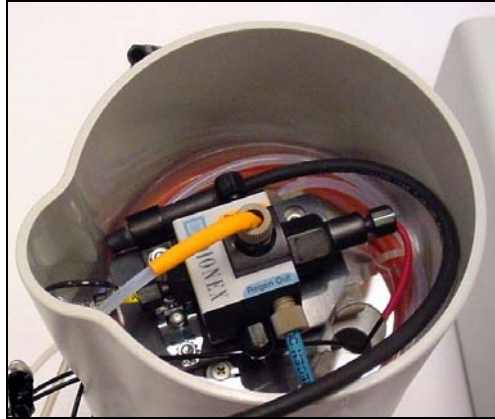

Figure 5-73. CR-TC Installed in Holder
5. Check that none of the lines are caught under the CR-TC and then push the CR-TC onto the metal stud inside the EGC holder. Push down until the CR-TC snaps in place (see Figure 5-73).